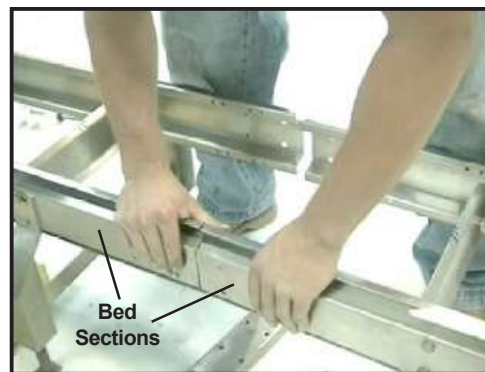

Figure 4: Bring ends of Bed Sections together
- Bring the adjoining ends of the bed sections together, lining up the side frames on both sides (*Figure 4*).